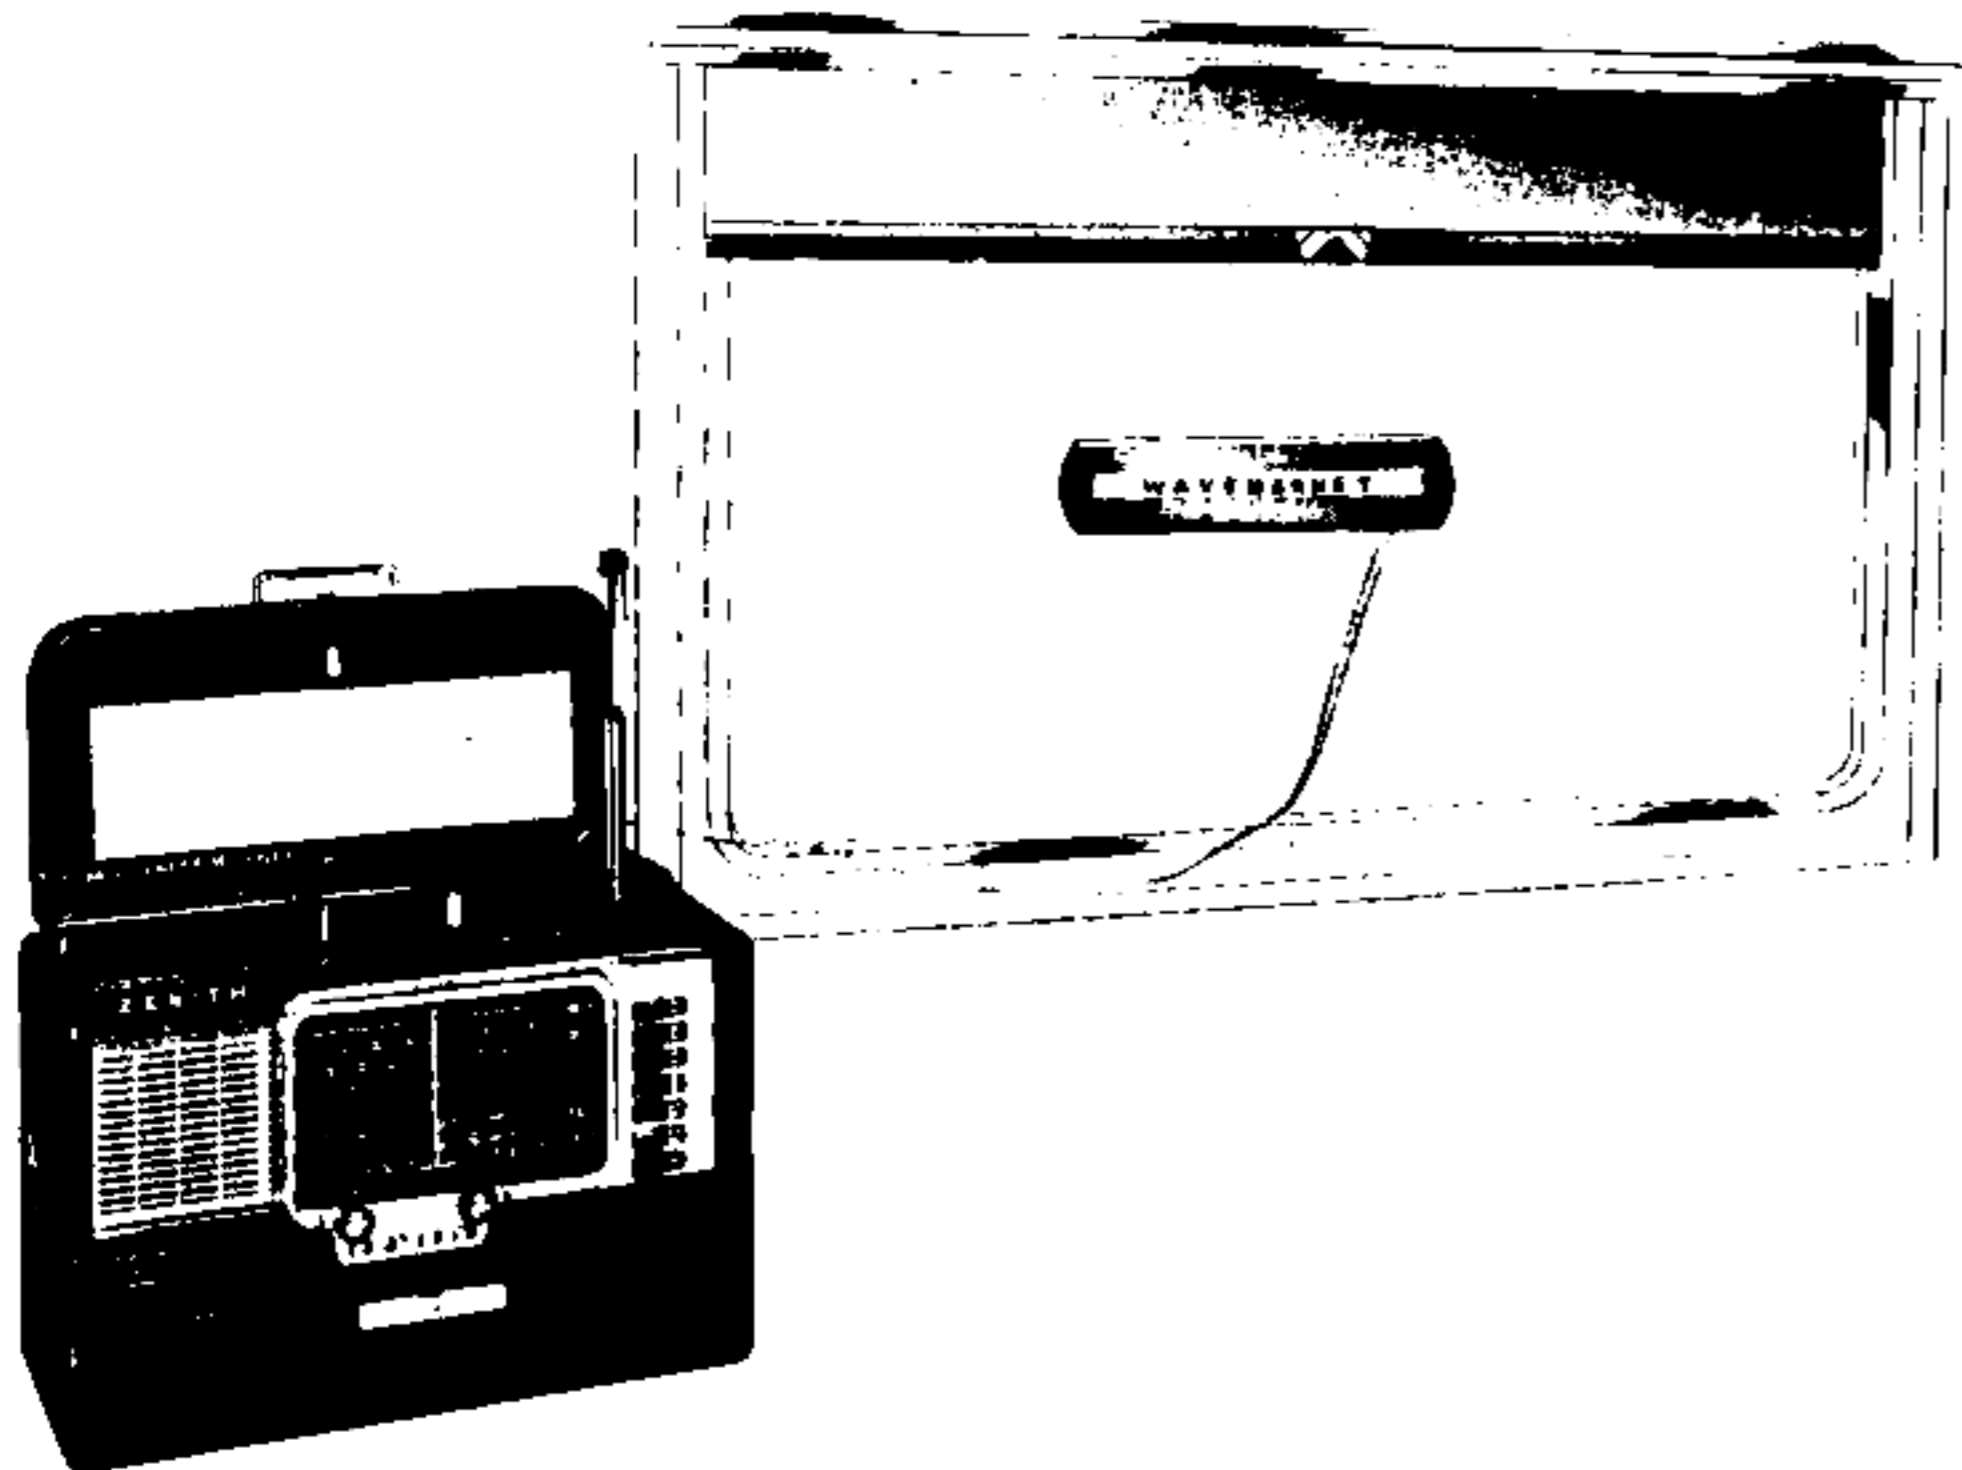

Figure 16—Detachable Wavemagnet in Position on a Window.
- D. Moisten the suction cups and apply the Broadcast Wavemagnet to the center of a window. (See Fig. 16.)